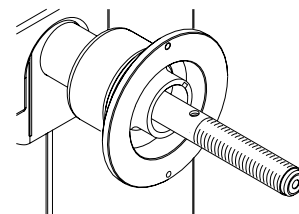

Figure 6
**A.** Mount the threaded shaft onto the arbor of the balancer. Tighten firmly using the supplied wrench. (Figure 6).